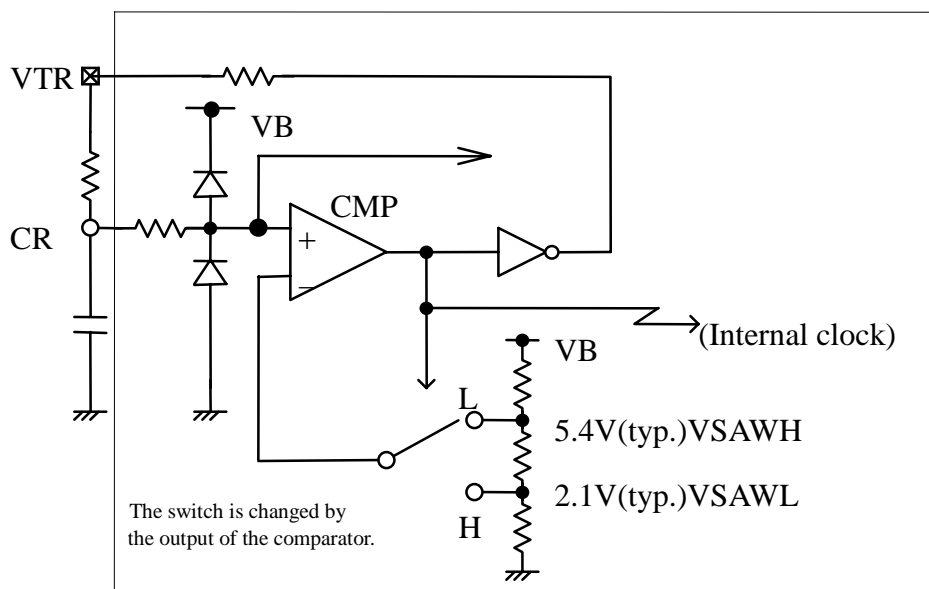

Fig.5 Equivalent circuit around CR, VTR terminal
- The frequency of the triangular wave is decided by a resistance and a capacitor which are connected at two terminals as shown in Fig. 5. Approximately, the frequency can be calculated by the following equation,